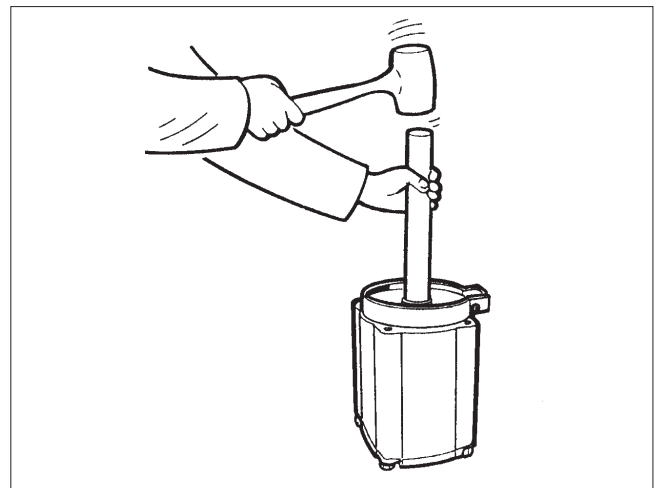
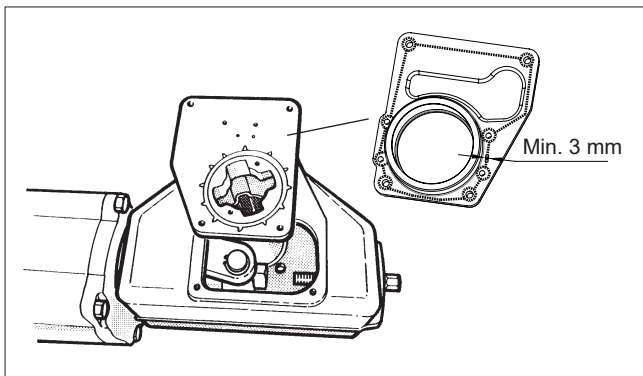
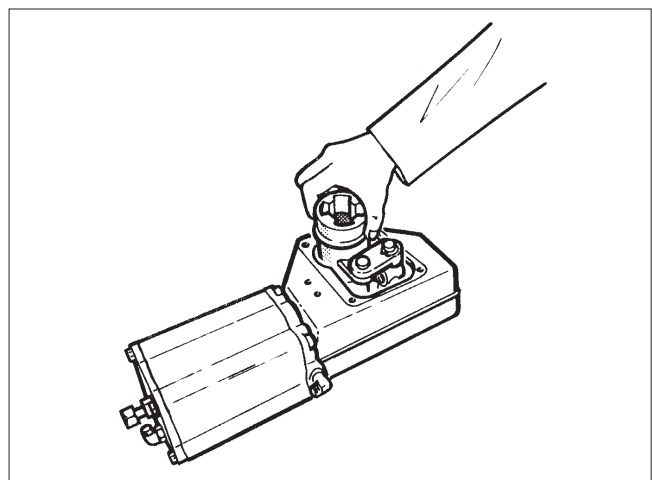

Fig. 11 Placing the piston in the cylinder
Fig. 12 Mounting the cover on the housing
Fig. 13 Removing the linkage from the housing
- Knock or press the piston through the tie ring with a press, Fig. 11.
- Mount the O-ring (19) and the cylinder and piston. Note the location of the air inlet: use the air inlet of the cylinder base as a guide. Tighten the screws (31). See Table 2 for torques.
- Apply locking sealant e.g. Loctite 225 to the threads of the fastening screw (29) of the bearing unit and tighten it. See Table 2 for torque.
- Fasten the housing cover temporarily so that the linkage bearings (3) function, but the linkage is still visible, Fig. 12. Note the grounding rings (3A, 4A).
- Install new pressure outlet valve (58) on to housing cover.
- Clean housing and cover contact area. Apply proper amount (min. 3 mm diameter continuous path, as shown in Fig. 12) of sealant, e.g. silicone mass, to the interface between housing and cover.
- Turn the lever (3) so that the bearing unit is detached from the piston rod (10). Lift the entire lever system out of the housing, Figure 13.
- Remove the lever bearings (23), the X-rings (17) and the grounding ring (3A).
- Install the lever bearings (23). The bearing strip (23) has a chamfer on one side, which is meant to be facing upwards towards the housing cover, so that the chamfered side is in contact with the X-ring (17).
- Install the X-rings (17). The X-rings must not be twisted at any point. Make sure they are placed evenly and uniformly around the whole lever arm surface. On the housing cover side the X-ring (17) will fit only if installed together with a chamfered bearing strip (23).
- Assemble the linkage and install in the housing. See Figure 13 for the correct position. Note that there are 2 pieces of grounding ring (4A) needed under the connection arm. All grounding rings (3A and 4A) are needed to meet the ATEX requirements.
- Apply locking sealant e.g. Loctite 2400, 242 or 225 to the threads of the fastening screw (29) of the bearing unit and tighten it. See Table 2 for torque.